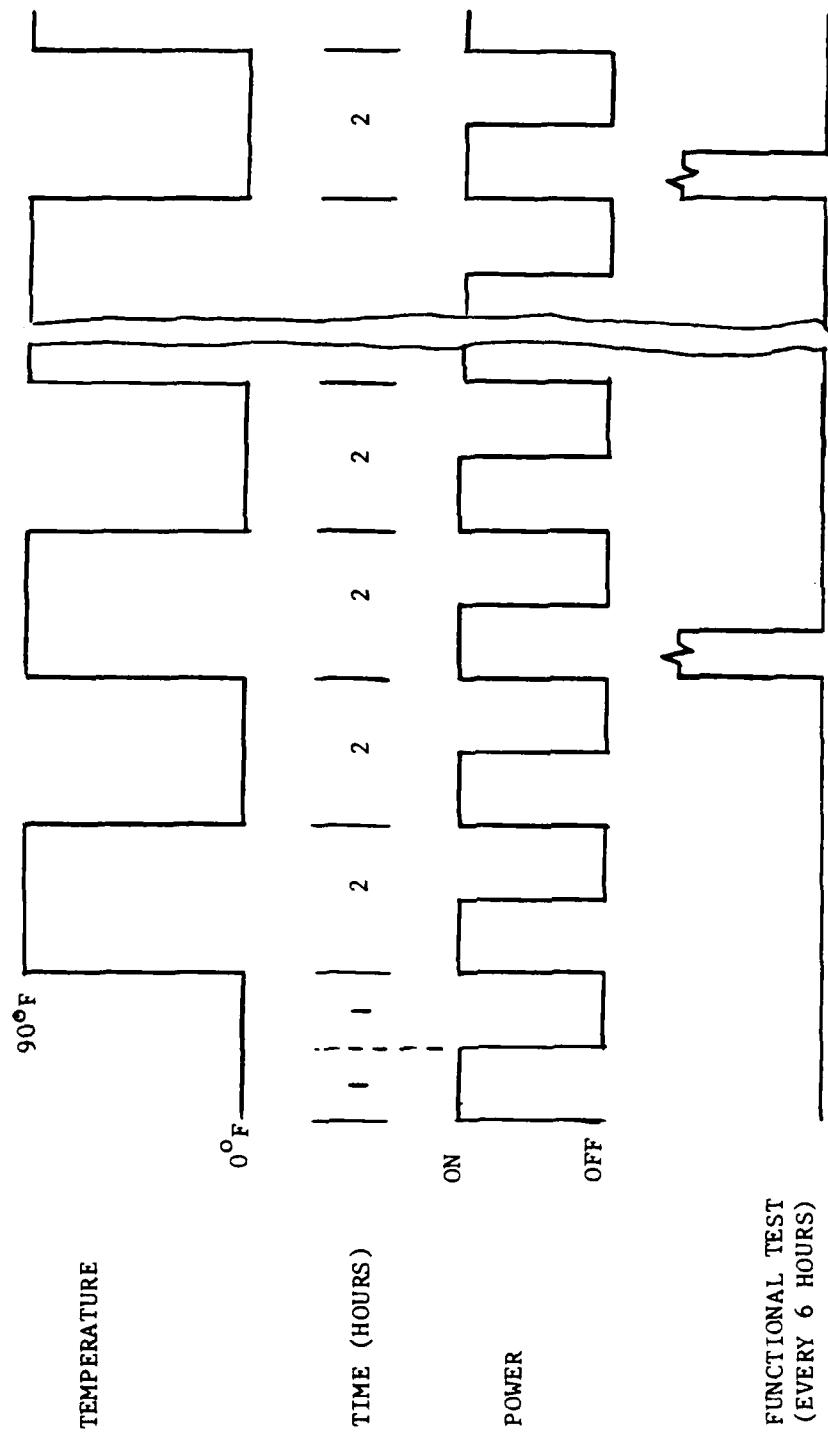

FIG. 34
8. See Figure 34 on page 86 for paragraph 1 through 7.